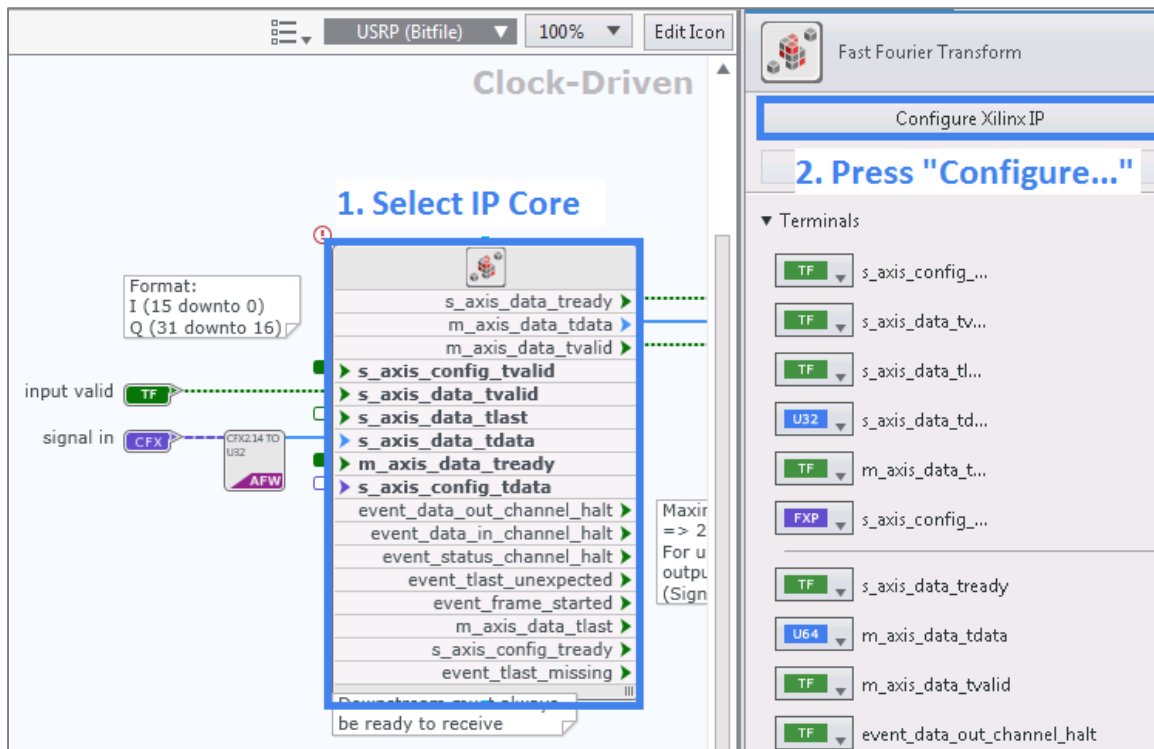

Figure 3 - How to reconfigure a Xilinx IP Core
4. Select the affected Xilinx IP block, and click on **Configure Xilinx IP Core** in the right-hand rail as shown in Figure 3.